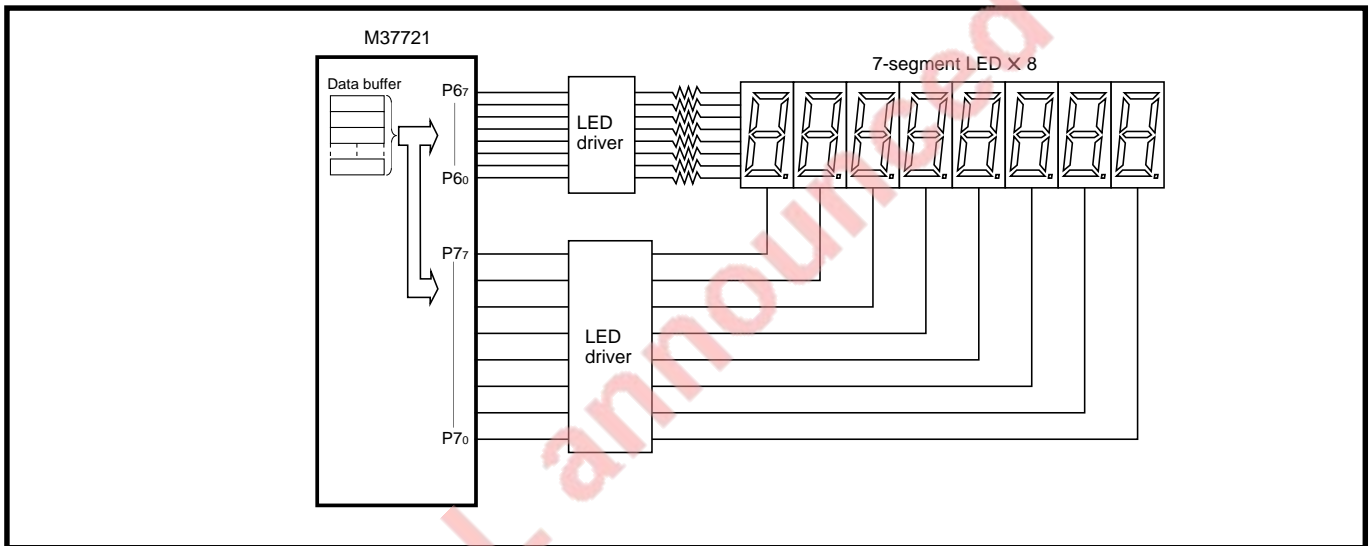

Fig. 16.2.11 Example of dynamic lighting for LED
- The eight 7-segment LEDs are lighted up; port P6 outputs the segment data; port P7 outputs the digit data. (Refer to “**Figure 16.2.11.**”)